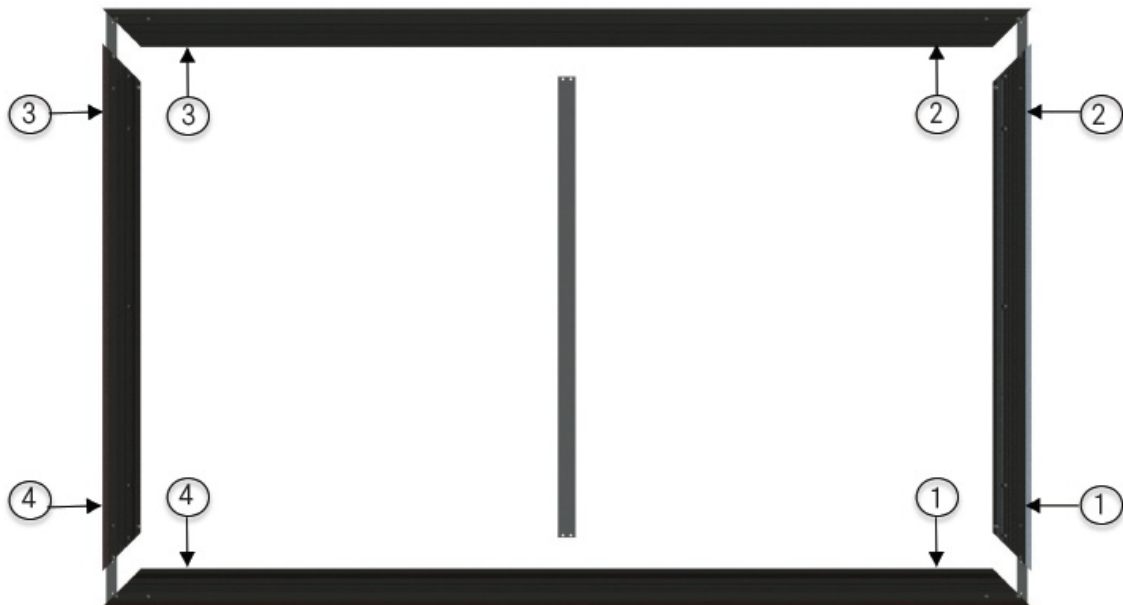

Figure 1: Frame assembly rear view
1. Connect the frame members by matching numbered dots on the ends of the members (see Figure 1).